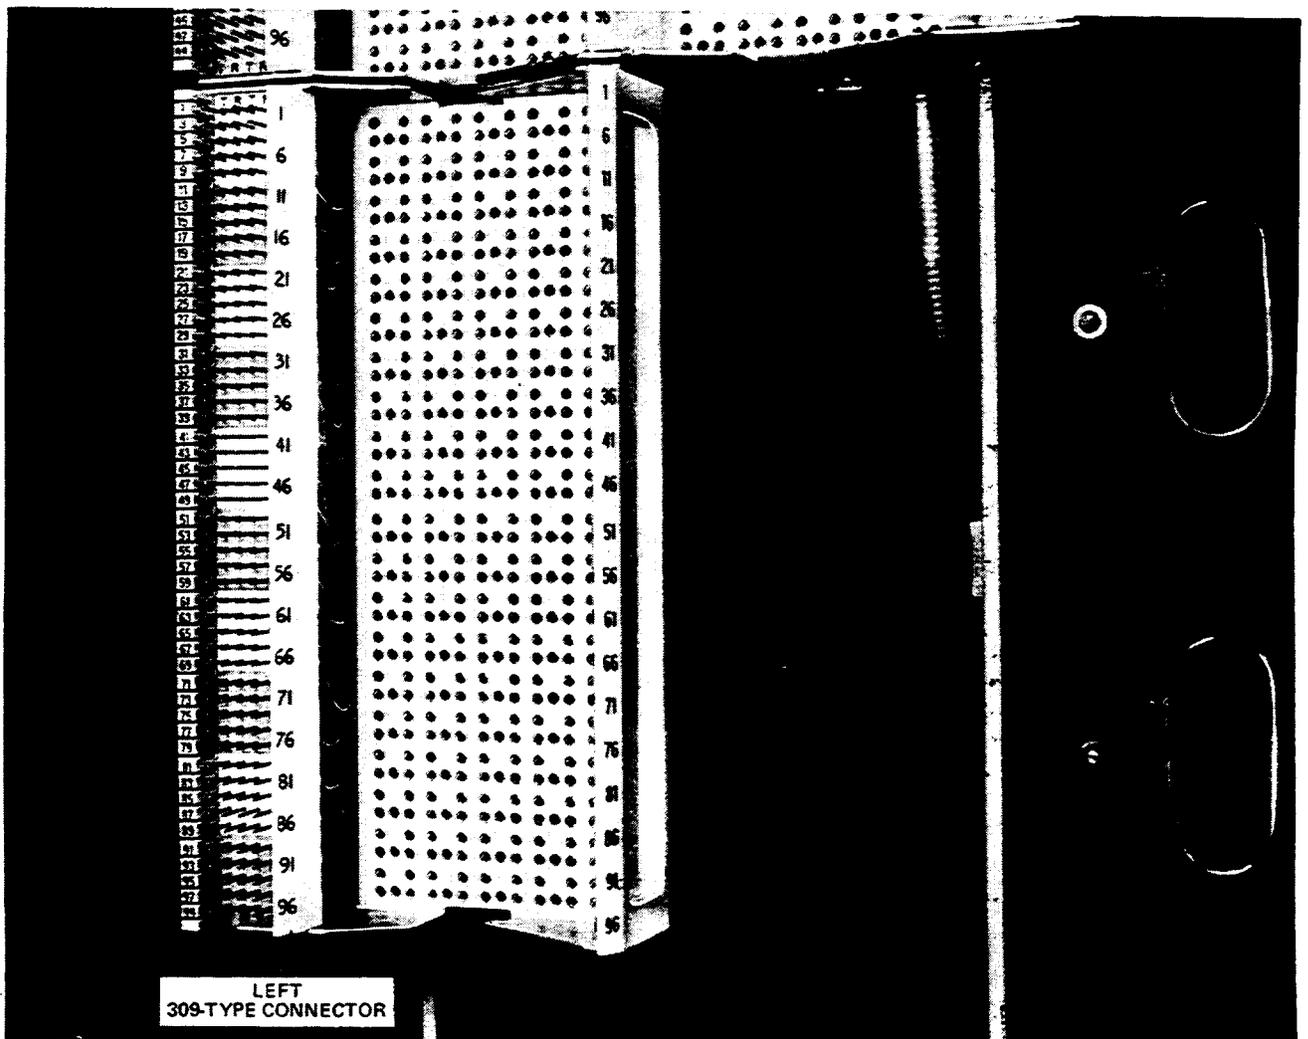

Figure 9—Left-Mounted 309-Type Connector
- (1) See Figure 9 and 10 for numbers that correspond to the following steps.
- (2) Route the stub cable through the cable entrance facility. Leave enough slack in the stub at the connector end to allow for mounting the **left** 309-type connector in the assigned position.
- (3) Align the slots of the **left** 309-type connector with the mounting holes in the frame. Loosely tighten the furnished hexagon-head mounting screw into the bottom threaded mounting hole.
- (4) Loosely tighten the other furnished hexagon-head mounting screw into the top threaded mounting hole.